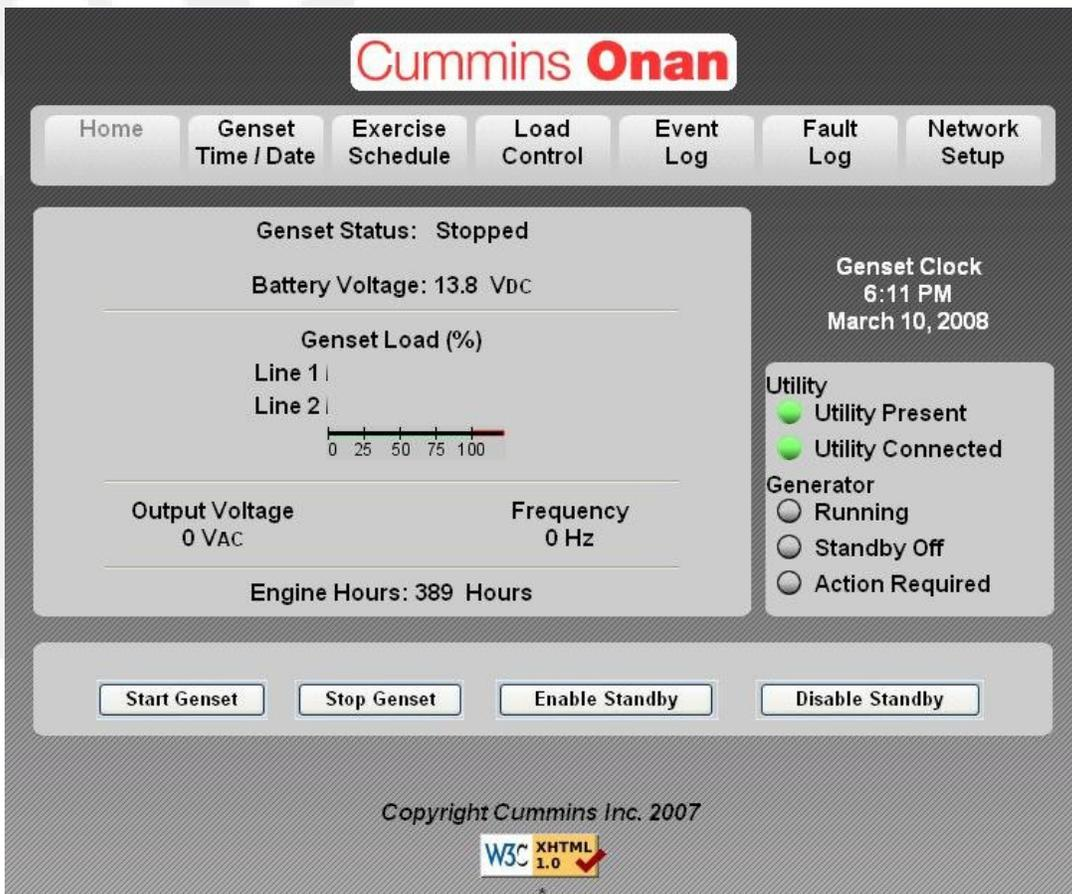

FIGURE D-3. GENERATOR SET HOME PAGE
3. Verify that the alert level is set to “All Events” (see Figure D-4). To verify that your generator set can send emails, select “Disable Standby” (see Figure D-3) and wait several minutes to verify that you did receive an email. Then select “Enable Standby” and wait a few more minutes to verify that you did receive a second email.